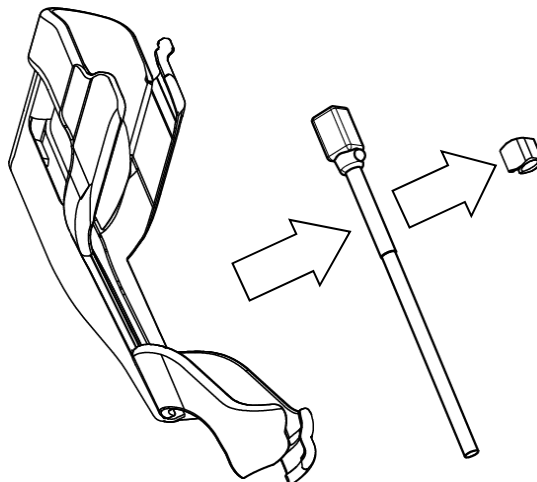

Fig. 12
2) Detach the magnetic sensor and the Spacer for EZU-RV2S from the Magnetic sensor attachment as shown Fig. 12.